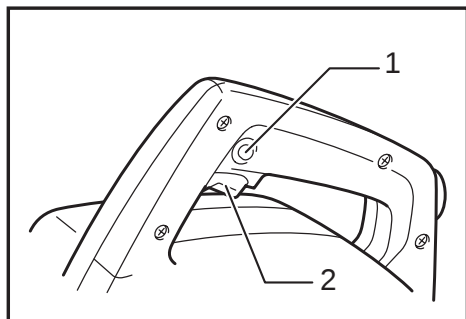

Fig.2
► **Fig.2:** 1. Lock button / Lock-off button 2. Switch trigger